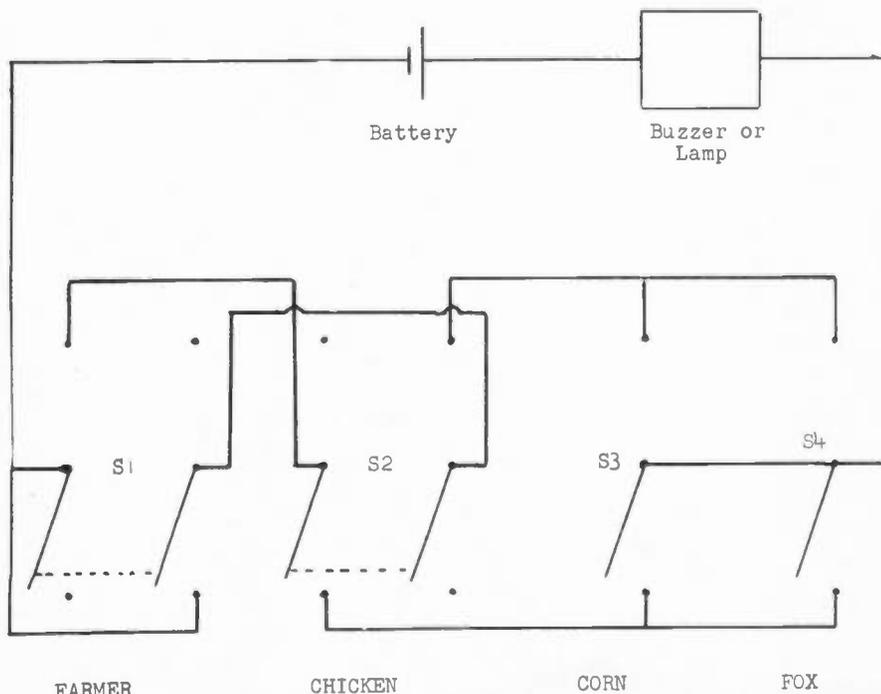

Fig. 2. Circuit Diagram.
expected to imitate the reference noise, working from a very accurate recording. If the speaker is perfect the sound will be the same as that from the reference speaker. The other elements in the system, assuming well matched channels in the tape record-reproduce system, will have little effect in creating differences in sound. A diagram of the test display arrangement is shown in Fig. 2.
*Fig. 2. The live vs recorded test display. The reference sound is recreated by playing channel 1 of the tape through the reference speaker. This is the 'live' display. The speaker under test is then asked to imitate the reference 'live' sound from tape channel 2.*
The circuit diagram is shown in Fig. 2. It needs no explanation. If you follow it out you'll see what happens if any error is made while using the puzzle.